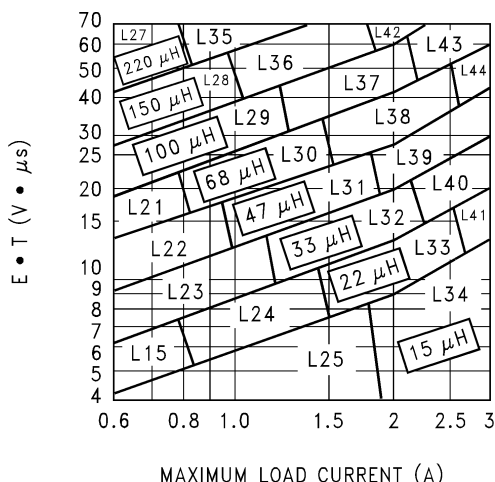

Figure 24. LM2596-ADJ
<p>2. Inductor Selection (L1)</p> <p>A. Calculate the inductor Volt • microsecond constant <math>E \cdot T</math> (<math>V \cdot \mu s</math>), from the following formula:</p> $E \cdot T = (V_{IN} - V_{OUT} - V_{SAT}) \cdot \frac{V_{OUT} + V_D}{V_{IN} - V_{SAT} + V_D} \cdot \frac{1000}{150 \text{ kHz}} (V \cdot \mu s)$ <p>where</p> <ul style="list-style-type: none"> <li><math>V_{SAT}</math> = internal switch saturation voltage = 1.16V</li> <li><math>V_D</math> = diode forward voltage drop = 0.5V (4)</li> </ul> <p>B. Use the <math>E \cdot T</math> value from the previous formula and match it with the <math>E \cdot T</math> number on the vertical axis of the Inductor Value Selection Guide shown in <a href="#">Figure 24</a>.</p> <p>C. on the horizontal axis, select the maximum load current.</p> <p>D. Identify the inductance region intersected by the <math>E \cdot T</math> value and the Maximum Load Current value. Each region is identified by an inductance value and an inductor code (LXX).</p> <p>E. Select an appropriate inductor from the four manufacturer's part numbers listed in <a href="#">Table 3</a>.</p>	<p>2. Inductor Selection (L1)</p> <p>A. Calculate the inductor Volt • microsecond constant (<math>E \cdot T</math>),</p> $E \cdot T = (28 - 20 - 1.16) \cdot \frac{20 + 0.5}{28 - 1.16 + 0.5} \cdot \frac{1000}{150} (V \cdot \mu s)$ $E \cdot T = (6.84) \cdot \frac{20.5}{27.34} \cdot 6.67 (V \cdot \mu s) = 34.2 (V \cdot \mu s) \quad (5)$ <p>B. <math>E \cdot T = 34.2 (V \cdot \mu s)</math></p> <p>C. <math>I_{LOAD(max)} = 3A</math></p> <p>D. From the inductor value selection guide shown in <a href="#">Figure 24</a>, the inductance region intersected by the 34 (<math>V \cdot \mu s</math>) horizontal line and the 3A vertical line is 47 <math>\mu H</math>, and the inductor code is L39.</p> <p>E. From the table in <a href="#">Table 3</a>, locate line L39, and select an inductor part number from the list of manufacturers part numbers.</p>